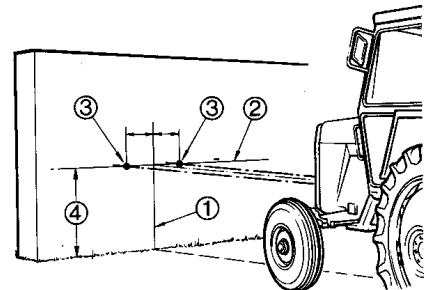

FIG. 35
1. Fig. 35. Position the tractor 2 m (6 ft) away from, and at right angles to a wall or screen.
3. Draw a vertical line (1) through the point.
4. Draw a horizontal line (2) through the vertical line (1) at headlight height (4).
5. Mark two points (3) on the horizontal line representing the distance between the two headlights, spaced equally either side of the vertical line (1).
6. Adjust each headlight individually by obscuring the other, so that the points (3) marked on the wall or screen are in the centre of the beam. The centre of the headlight beam may be found by marking the extremities of the beam both vertically and horizontally, and dividing by two.